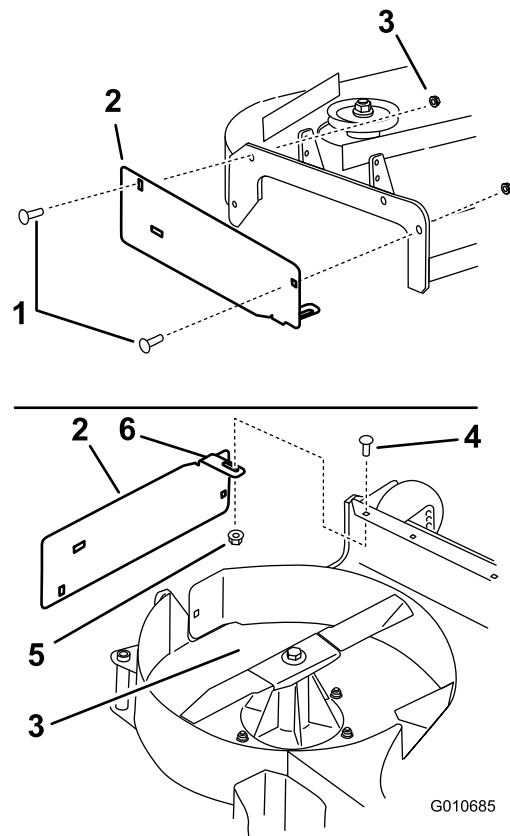

Figure 7
1. Install the discharge plate to the outside of the mounting bracket with 2 carriage bolts (3/8 x 1-1/4 inches) and 2 flange nuts (small flange) (3/8 inch) as shown in Figure 7.
2. Install the tab to the inside of the mower deck with 1 carriage bolt (5/16 x 7/8 inch) and 1 flange nut (5/16 inch) (small flange) as shown in Figure 7.